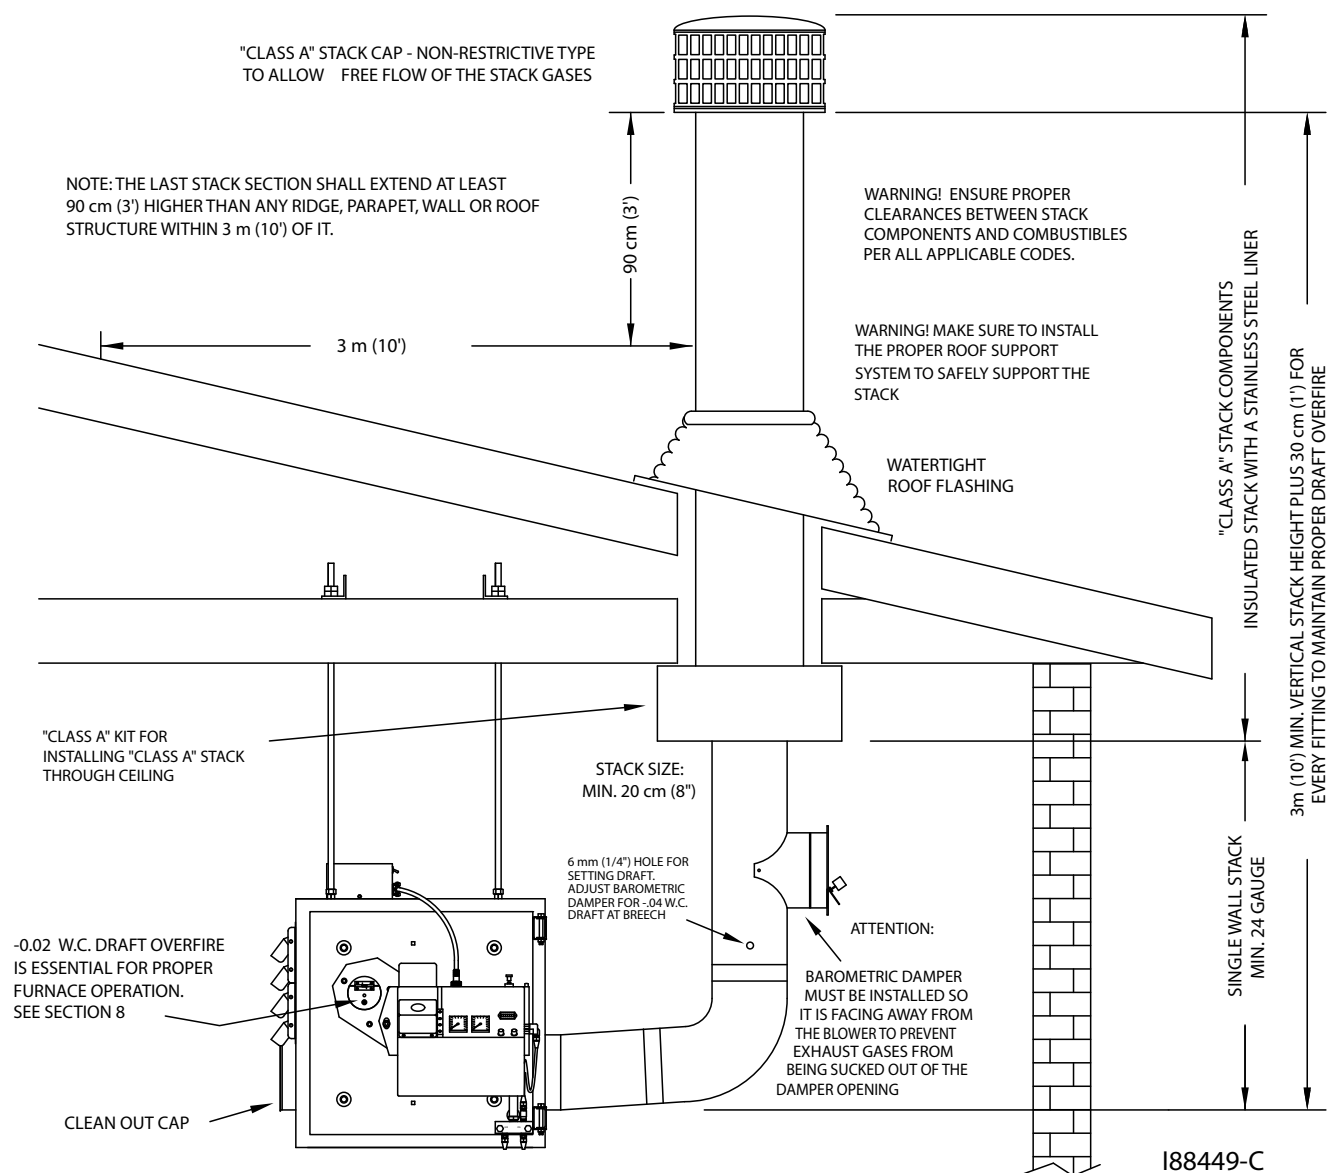
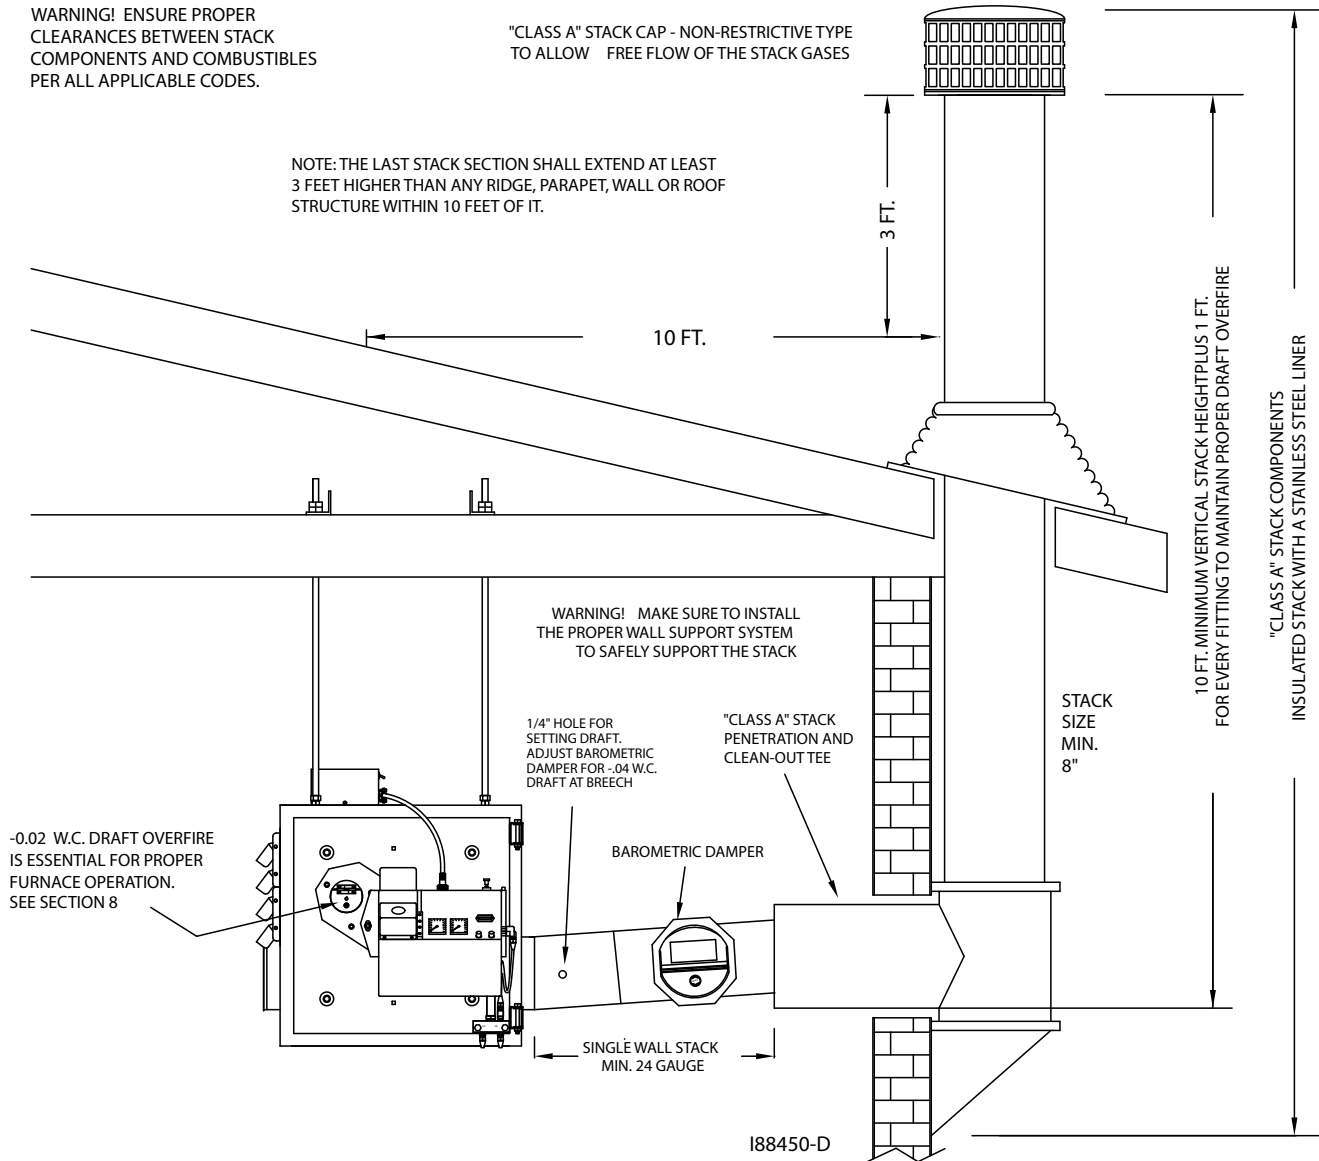

Figure 4L - Installation of "Class A" Stack Through Roof/Ceiling
Figure 4M - Installation of "Class A" Stack Through Sidewall
- (1) "Class A" stack through the ceiling of the building (refer to **Figure 4L**)
- (2) "Class A" stack through the sidewall and up the side of the building (refer to **Figure 4M**)
Figures 4L and 4M illustrate recommended stack designs. Choose the stack design which is appropriate for your furnace installation and review all specifications provided in the corresponding drawing. When designing your stack, adhere to the following specifications:
1. Refer to Figure 4L. Install a single wall tee (min. 24 gauge) after the 90 degree elbow in the straight vertical stack section within three to five feet of the furnace breach. For horizontal stack runs (as shown in Figure 4M), install the tee after the first straight section of pipe.
1. Refer to Figure 4L/4M as needed.
1. Refer to Figure 4L/4M as needed. Your stack cap should be classified as: "Class A" non-restrictive, all-fuel type.